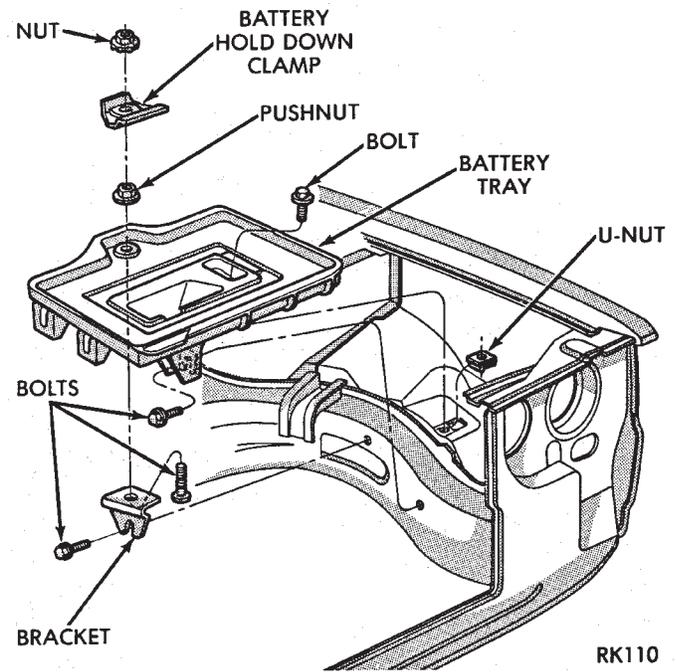

Fig. 5 Battery Tray
(7) Inspect battery case and cover for cracks or leakage. If leakage is present, battery must be replaced.
(8) Inspect battery tray (Fig. 5) for damage caused by acid from battery. If acid damage is present, it will be necessary to clean area with same solution described in Step (6).